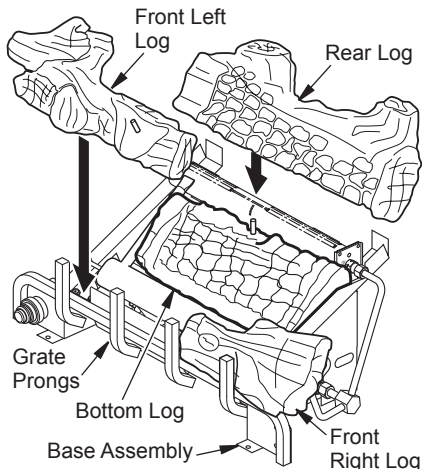

Figure 26 - Installing VUL Model Log Sets
1. Place bottom log in center of the base assembly as shown in Figure 26, page 19.
2. Rest rear log in back corner sections of base assembly as shown in Figure 26, page 19. Make sure log is completely vertical and not leaning in toward burner where the flame will touch the log.
3. Position front right log against right side of grate prongs (see Figure 26, page 19).
4. Position front left log against left side of grate prongs (see Figure 26, page 19).